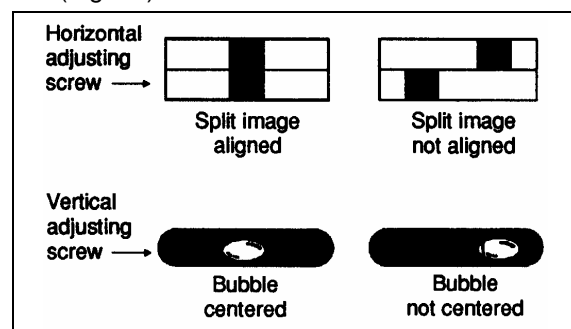

FIGURE 43: HEADLIGHT ALIGNER
3. Turn the horizontal aim adjusting screw of each headlight until split image is aligned (Fig. 43).
2. Turn the adjusting screw of the headlight vertical aim until bubble is centered (Fig. 43). Repeat operation on other headlight.